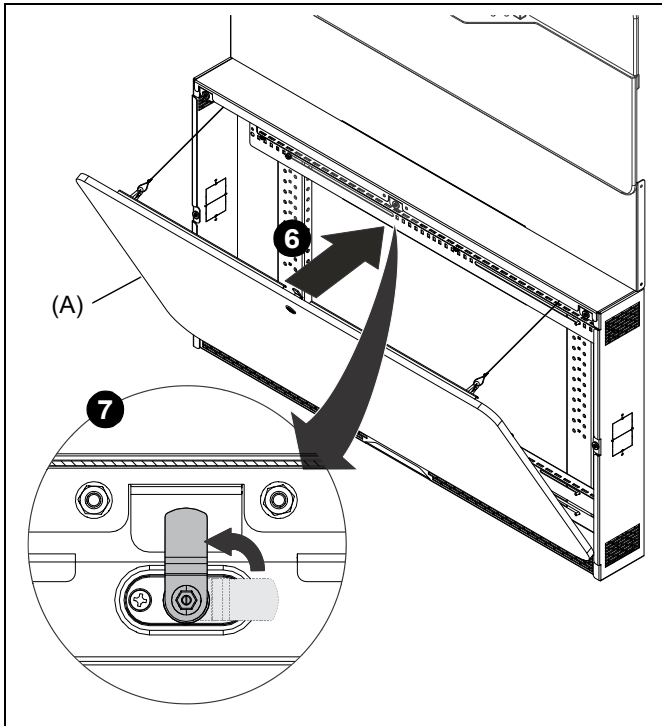

Figure 5
5. Rotate the upper edge of the locking cover (A) up towards the upper front edge of the floor cabinet. (See Figure 5)
6. Use the key (B) to secure the latch on the locking cover (A) to the upper edge of the floor cabinet. (See Figure 5)